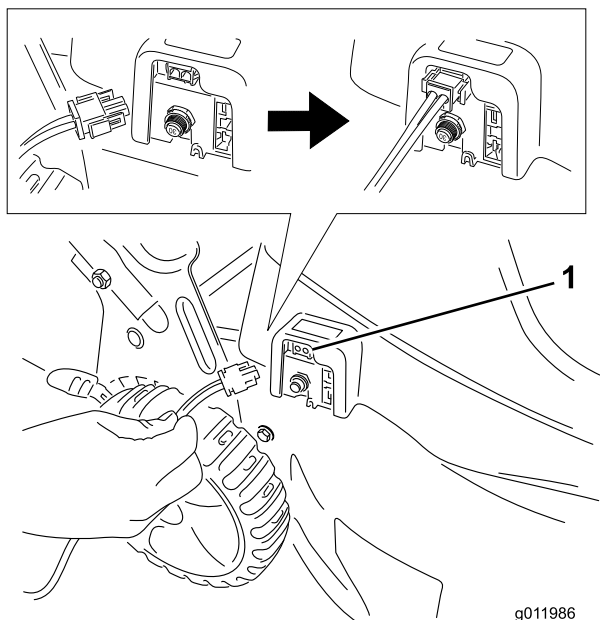

Figure 4
2. Insert the charger cord into the charging plug receptacle (Figure 4), and connect the other end to a standard 120-volt household outlet.